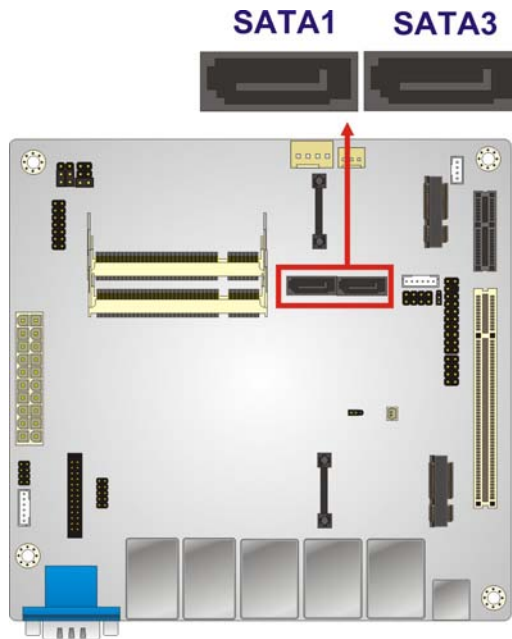

Figure 3-11: SATA Drive Connector Location
- CN Location: See **Figure 3-11**